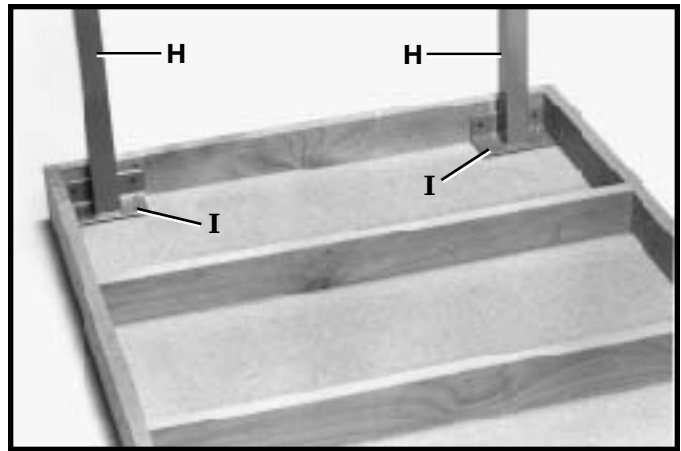

Fig. 15
1. Position the two legs (H) Fig. 15, at the two far corners of the inside of one end of the extension table, as shown, and mark the position of the eight holes to be drilled into the bottom of the table. **IMPORTANT: If your saw will be used with a mobile base underneath the saw base and table legs, the position of the legs may have to be changed to fit onto the mobile base.** Remove the two legs (H) and using a 1/16" drill bit, drill the eight holes 1/2" deep. Replace the two legs and fasten to the bottom of the table using the eight 3/4" long wood screws (I) supplied.